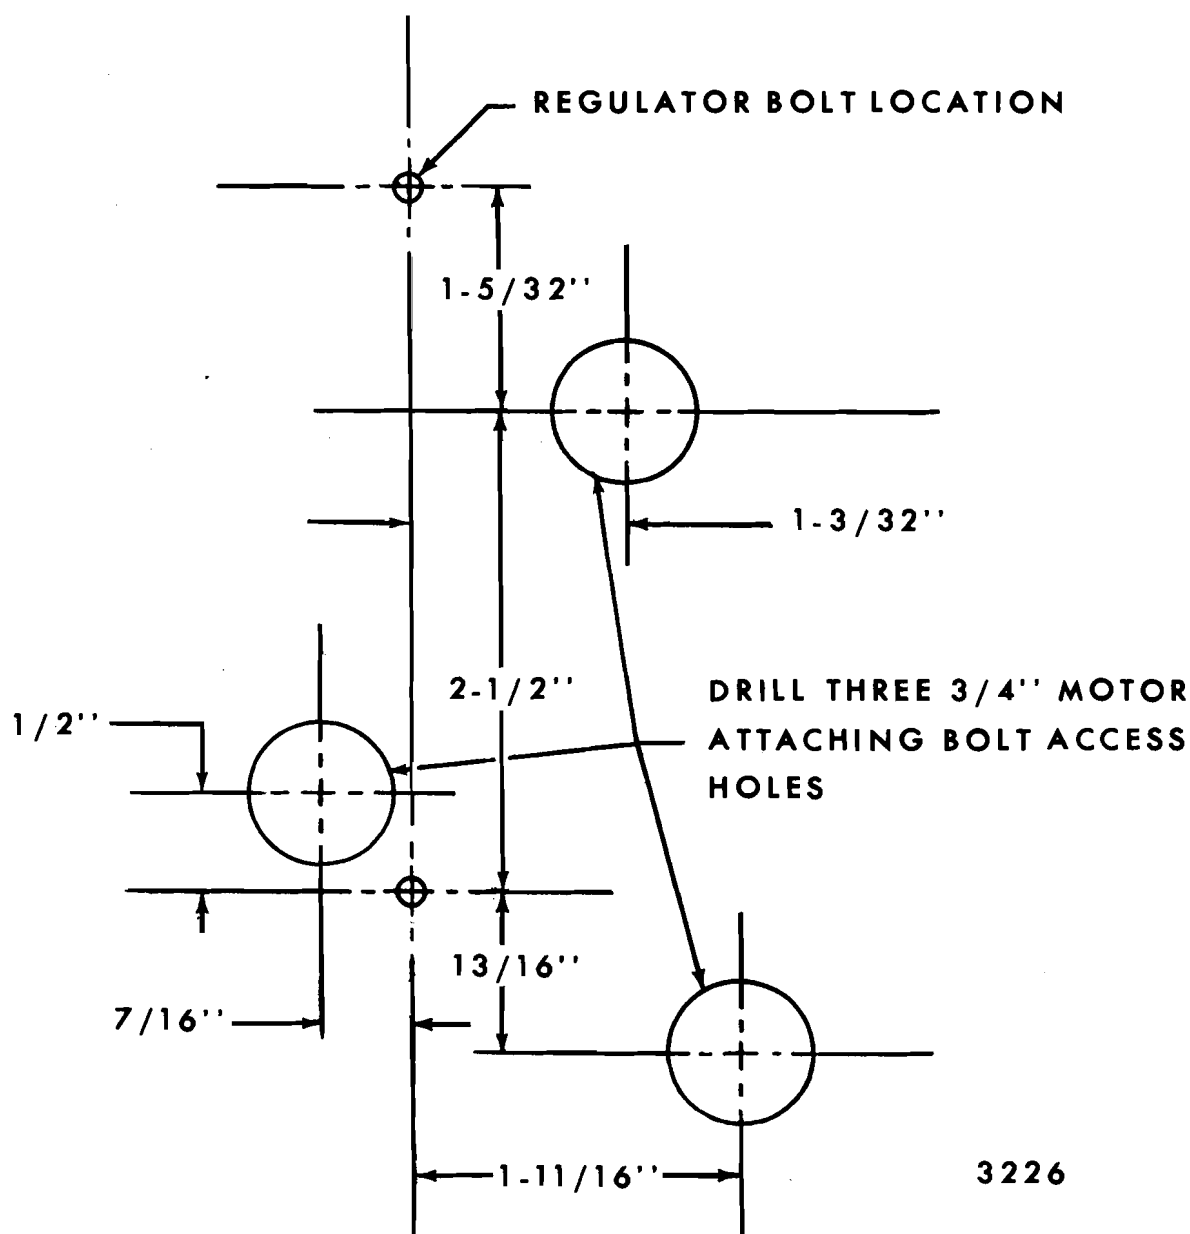

Fig. 6-31—Window Regulator Upper and Lower Left Attaching Bolt Reference Points for Locating Window Motor to Regulator Attaching Bolts - "A-27 and 77" Styles
2. Refer to Figures 6-31 through 6-35 and select the appropriate template for locating window motor to regulator attaching bolts by using window regulator to door inner panel attaching bolts as reference points.